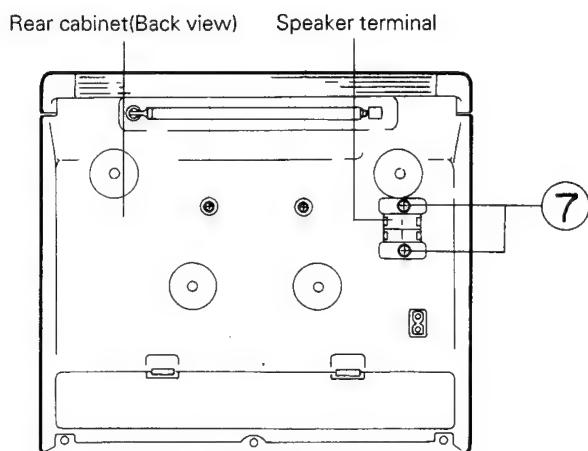

Fig. 5-10
■ Main board and Power transformer (Refer to Fig. 5-10 to 5-14)
6. Remove two screws ⑦ retaining the speaker terminal to remove it.
7. Remove one screw ⑧ retaining the main board from the front of the rear cabinet.
9. Remove the two screws ⑨ retaining the mecha. holder B.
10. Remove the one screw ⑩ retaining the battery contact board.